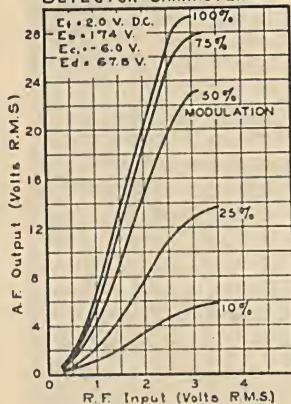

Fig. 16
**Detection Characteristics**—Fig. 16 shows the relation between the radio frequency input and the audio frequency output, for several percentages of modulation.